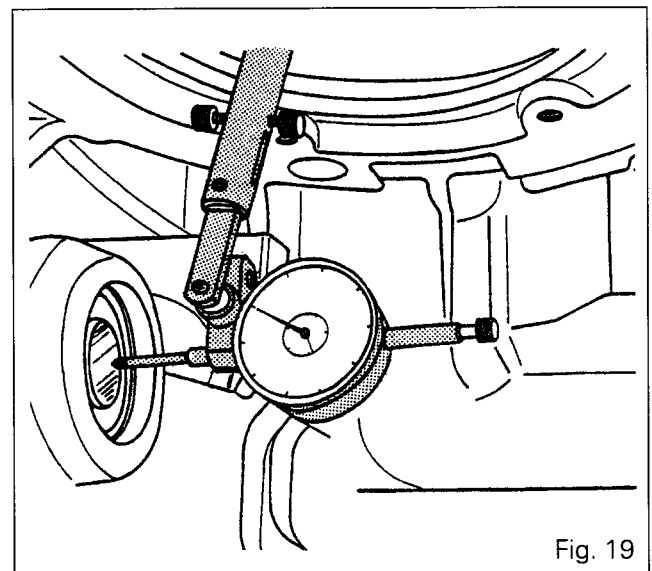

Fig. 19
84. Place the tip of a dial indicator against the drive pinion (Fig. 19).
89. Remove two bolts (32), bolt in two guide studs. Remove the two other bolts and the supporting plate (35).
91. Fit the bolts (32) smeared with Loctite 270. Remove the guide studs and tighten to a torque of 90 - 120 Nm.